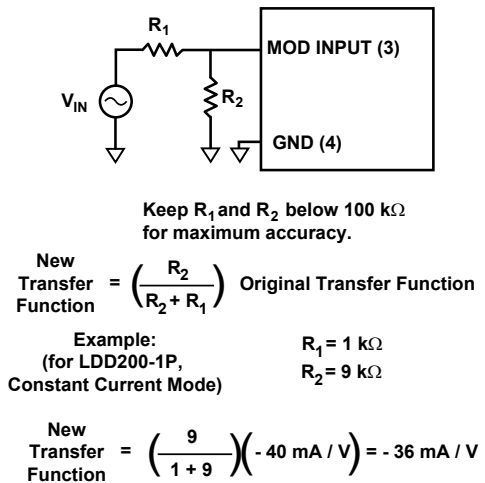

Figure 30. Changing the modulation transfer function.
**Figure 30** below shows how to change the modulation transfer function.